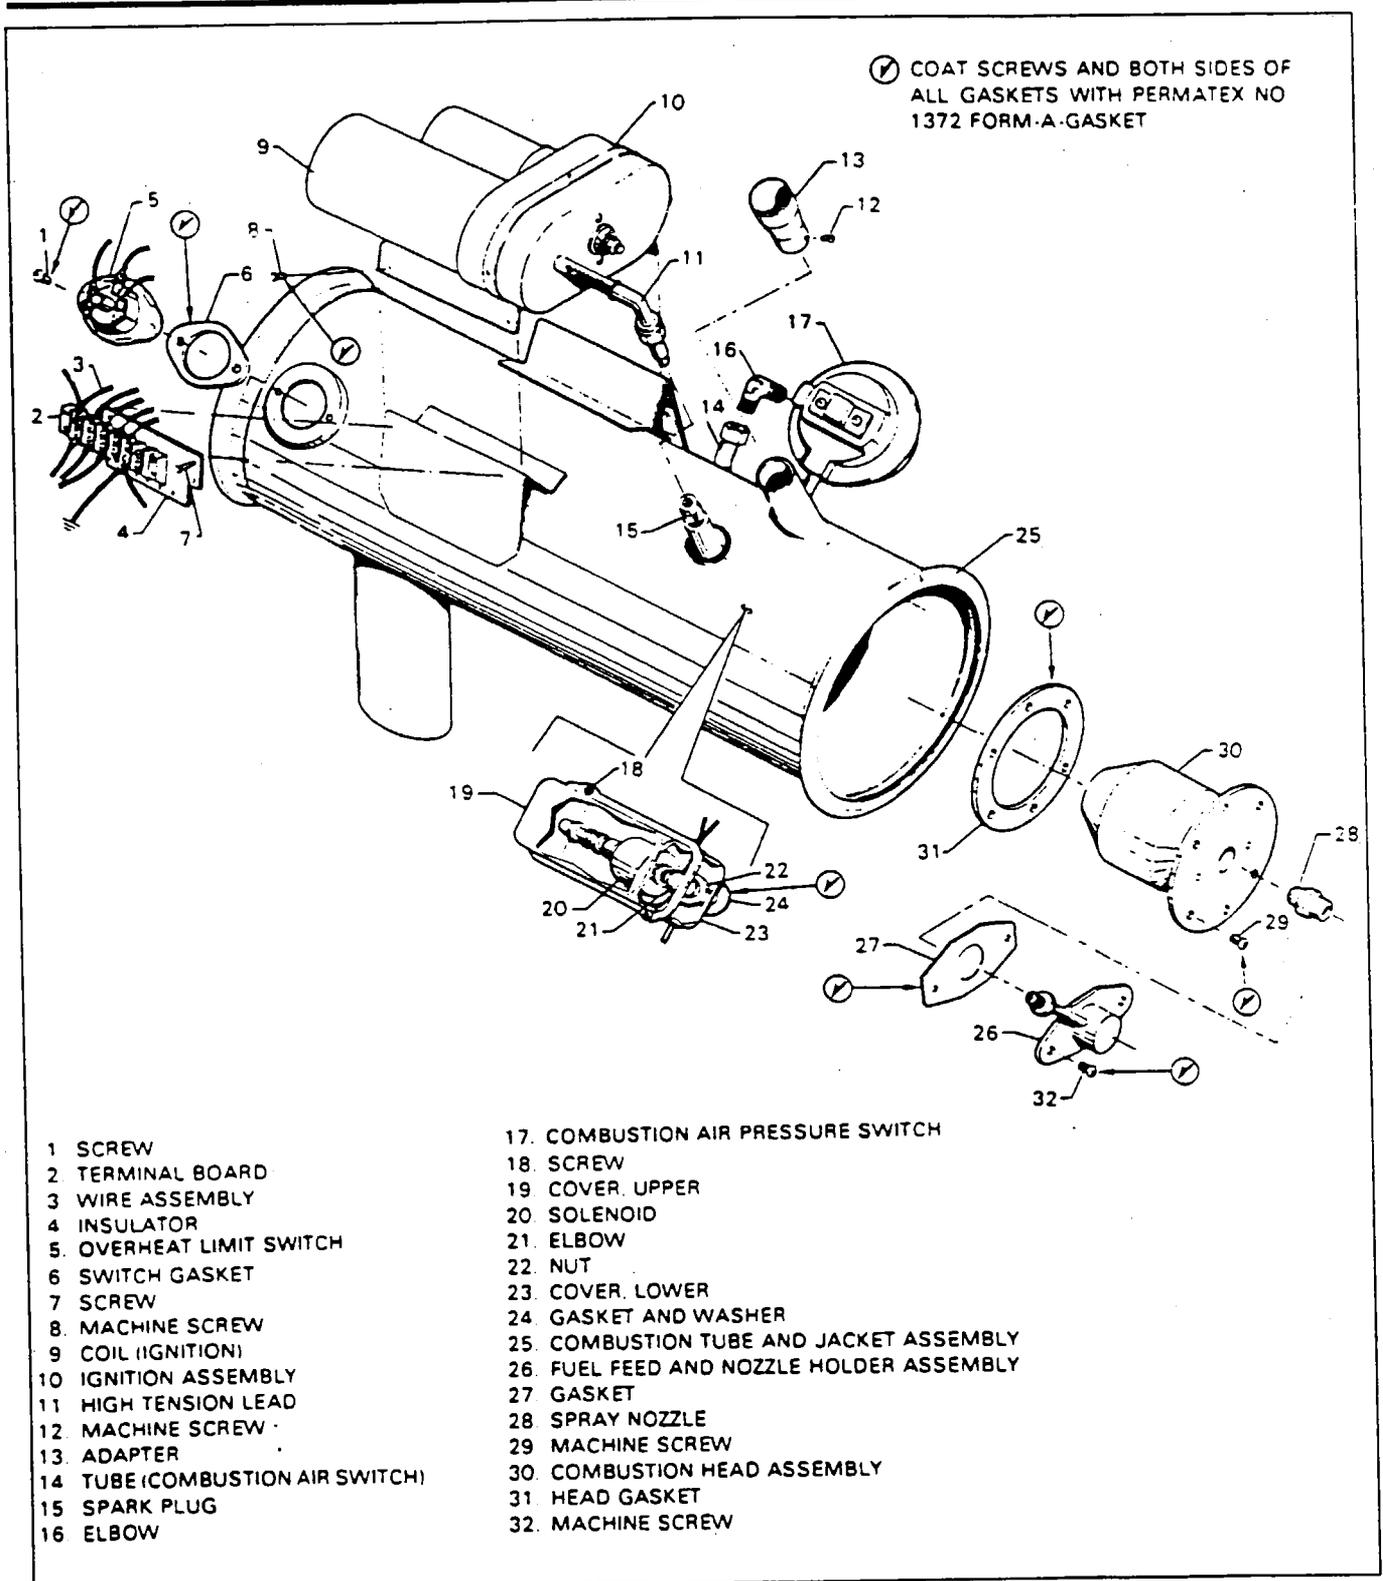

Figure 21-12. Heater Assembly (47D65-3) Exploded View
5. Spray test the nozzle (Figure 21-12) as follows:
**DISASSEMBLY OF HEATER.** (Refer to Figure 21-12.)
**REASSEMBLY OF HEATER.** (Refer to Figure 21-12.)
For screw and gasket coating, refer to Note on Figure 21-12.*
4. Install the grommet (Figure 21-12) in the heater jacket opening.
### REMOVAL OF IGNITION ASSEMBLY. (Refer to Figure 21-12.)
### INSTALLATION OF IGNITION ASSEMBLY. (Refer to Figure 21-12.)